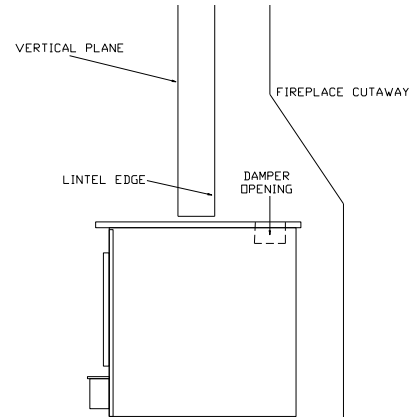

FIGURE 2 POSITIONING
When positioning heater, following conditions **MUST** be met! (See Figure 2).
1. The front of damper opening must be positioned **BEHIND** back edge of lintel to ensure proper draft. (See Figure 2).